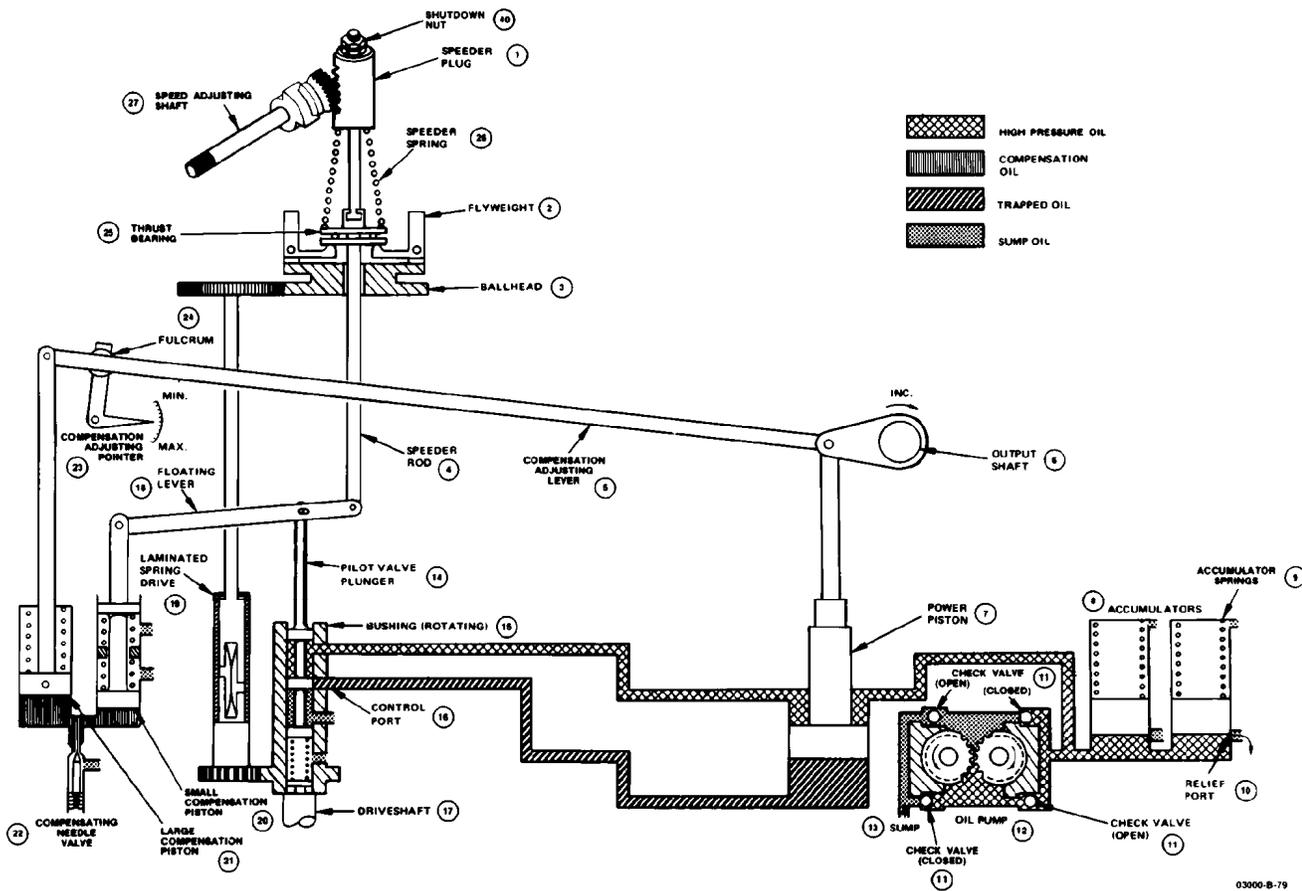
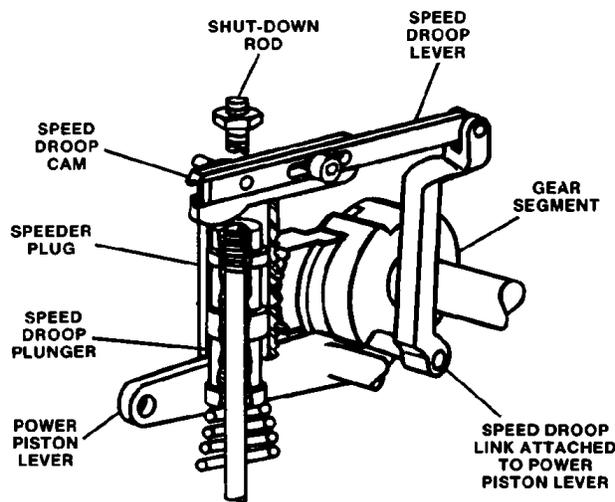
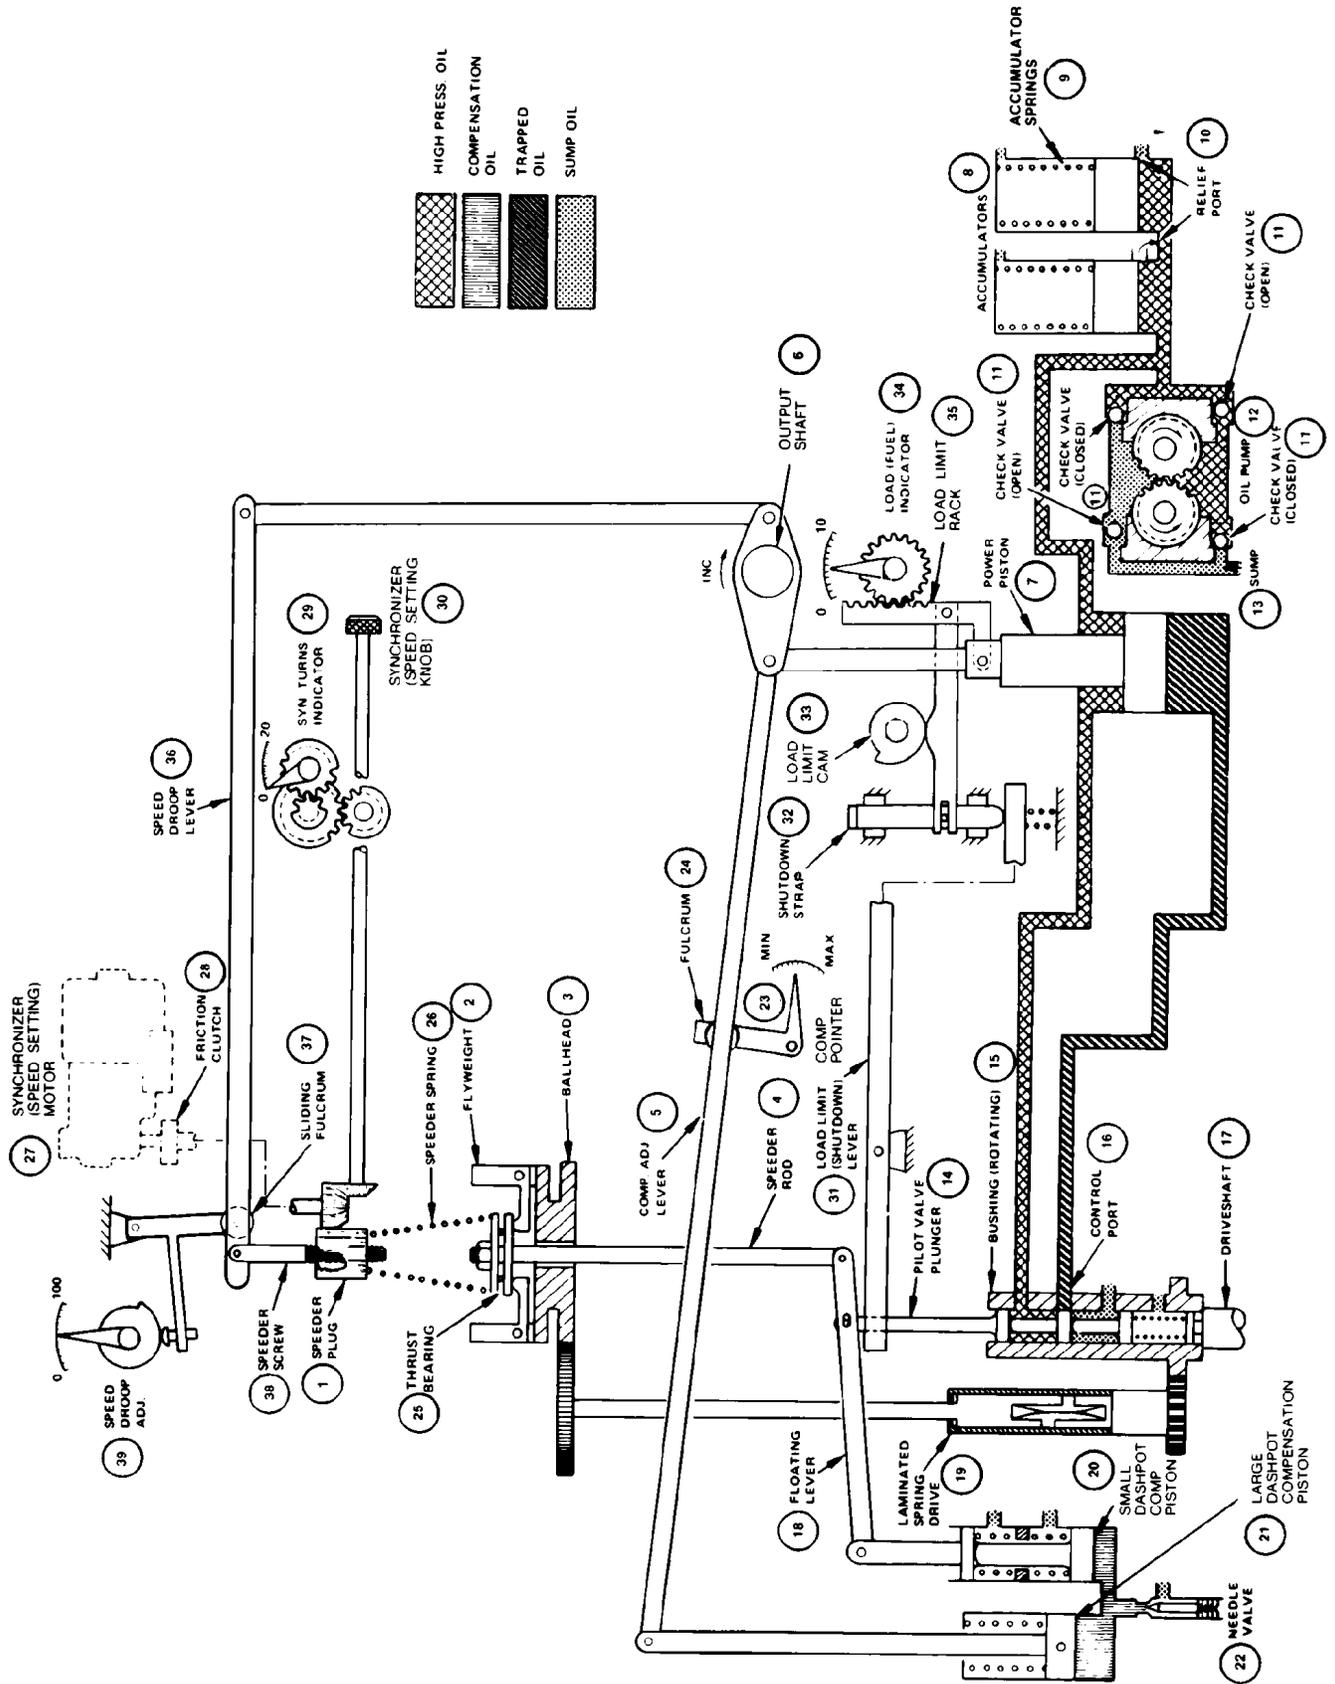

Figure 3-1. Lever Governor Schematic
Figure 3-2. Lever Governor Speed Droop Assembly
Figure 3-3. UG-40 Dial Governor Schematic
The schematic for the UG-40 Lever governor is less complicated than that for the Dial governor. For that reason, the following description refers to Figure 3-1. The Lever governor does not include load limit, speed droop, and shutdown features which are standard on the Dial governor. Most of these features may be included as options on the Lever governor, although they may not function in the same manner as on the Dial governor. Figure 3-3 is a schematic of the Dial governor. Unique features of the Dial governor are also explained in this section.
The oil pump (12, Figure 3-1) provides oil pressure for the governor. The pump gets oil from the self-contained sump (13). Four check valves (11) allow the positive displacement gear pump to operate either clockwise or counterclockwise. One pump gear is part of the rotating bushing (15) and the other is part of the laminated drive (19). The rotating bushing is driven by the governor drive shaft (17) which is driven by the prime mover. As the bushing rotates, it drives the laminated drive. Oil from sump is directed through the check valve system (11) into the accumulator system (8). Some units have positive direction plugs in the pump system to prevent unintentional reverse operation of the controlled device.
The accumulator (8, Figure 3-1) stores pressure oil for operation of the governor and also acts as a relief valve to control oil pressure in the governor.
The pilot-valve system (14 and 15, Figure 3-1) controls the flow of oil to and from the bottom of the power piston.
The ballhead system consists of a ballhead (3, Figure 3-1), flyweights (2), speeder spring (26), thrust bearing (25), speeder plug (1) and speeder rod (4). The geared ballhead is driven by the laminated drive (19). The flyweights are attached to the ballhead with pivot pins. A thrust bearing rides on the toes of the flyweights. The speeder rod is connected to the thrust bearing. The speeder spring is held against the thrust bearing by the speeder plug. As the ballhead rotates, the flyweights pivot outward due to centrifugal force. As the flyweights pivot out, the flyweight toes lift the thrust bearing against the speeder spring until spring force equals centrifugal force. At steady-state speed, the flyweights are at a middle position, centrifugal force is exactly equal to speeder-spring force, and the speeder rod has positioned the pilot-valve plunger in the central position so no oil is moving in the control system. If centrifugal force changes due to a change in engine speed, the speeder rod causes corresponding movement of the pilot valve.
Speeder-spring force in the Lever governor is controlled manually through the speed-adjusting shaft (27, Figure 3-1). The Dial governor controls speeder-spring force with the speed-setting knob (30, Figure 3-3).
A large-compensation piston (21, Figure 3-1) small-compensation piston (20), a floating lever (18), and a compensation-adjusting lever (5), with an attached adjustable fulcrum (24), make up the compensation system.
The UG-40 Lever governor may be equipped at the factory with a speed-droop assembly (see Figure 3-2). The Dial governor has built-in droop and a droop-setting knob on the control panel (35, 37, and 39, Figure 3-3).
The change of governor speed setting when load is increased or decreased helps the governor resist a load change when the unit is connected mechanically with other units. See Figure 3-2.
The Lever governor speed-droop assembly (Figure 3-2) consists of a speed-droop-lever assembly, a speed-droop cam, and a speed-droop-link assembly which, when set, changes the compression of the speeder spring as the governor output shaft rotates.
Speed droop In the Dial governor (Figure 3-3) is set with the speed-droop-adjustment knob on the control panel. This adjustment (39) moves the sliding fulcrum (37) and changes the lever ratio of the speed droop lever to the output shaft and speeder plug. The position of the speed-droop lever (36) is positioned as a function of the output shaft (6).
The purpose of the load-limit control (31, 32, 33, 34, and 35 in Figure 3-3) is to hydraulically and mechanically limit the load that can be placed on the engine by restricting the travel of the output shaft in the increase-fuel direction. Consequently, the amount of fuel supplied to the engine is limited.
Refer to Figure 3-1 with this text to better understand the operation of the UG-40 governor. This schematic diagram is of a basic design and does not include any auxiliary equipment. Figure 3-3 is the basic Dial governor schematic and includes the speed-setting additions which are not on the UG-40 Lever governor.